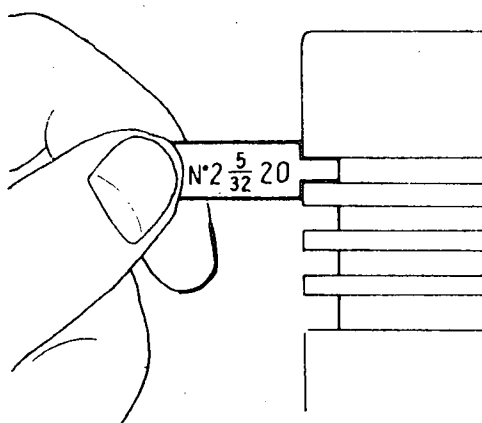

Fig. 5
a) Check the angles of the ring grooves (fig. 5).